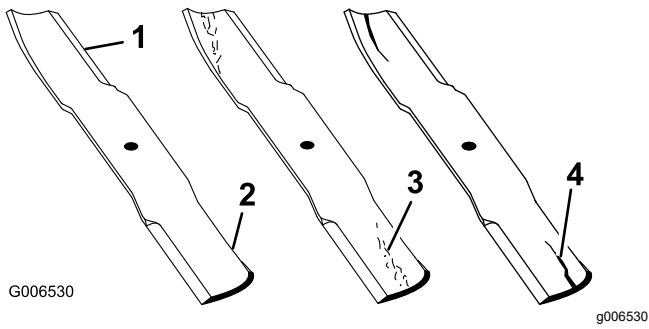

Figure 35
1. Inspect the cutting edges (Figure 35).
4. If you notice any cracks, wear, or a slot forming in this area, immediately install a new blade (Figure 35).